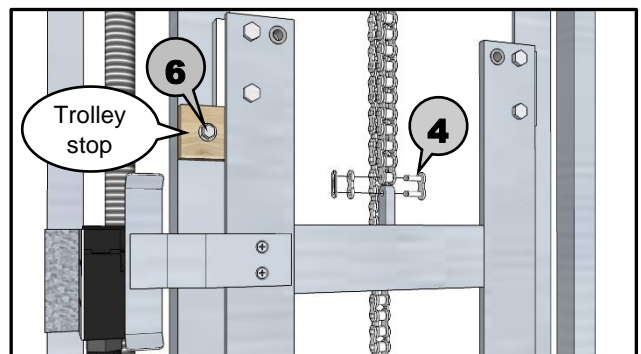

Figure 11
- 4** Use provided master link, attached near the top of the trolley with a plastic tie, to connect chain to top end of trolley. (see Figure 11)
NOTE: If the adjusting bolt won't reach, remove trolley stop. (see Figure 11)
- 6** Some machines will have a trolley stop screwed to the track for shipping purposes, and it should be removed at this time. (see Figure 11)